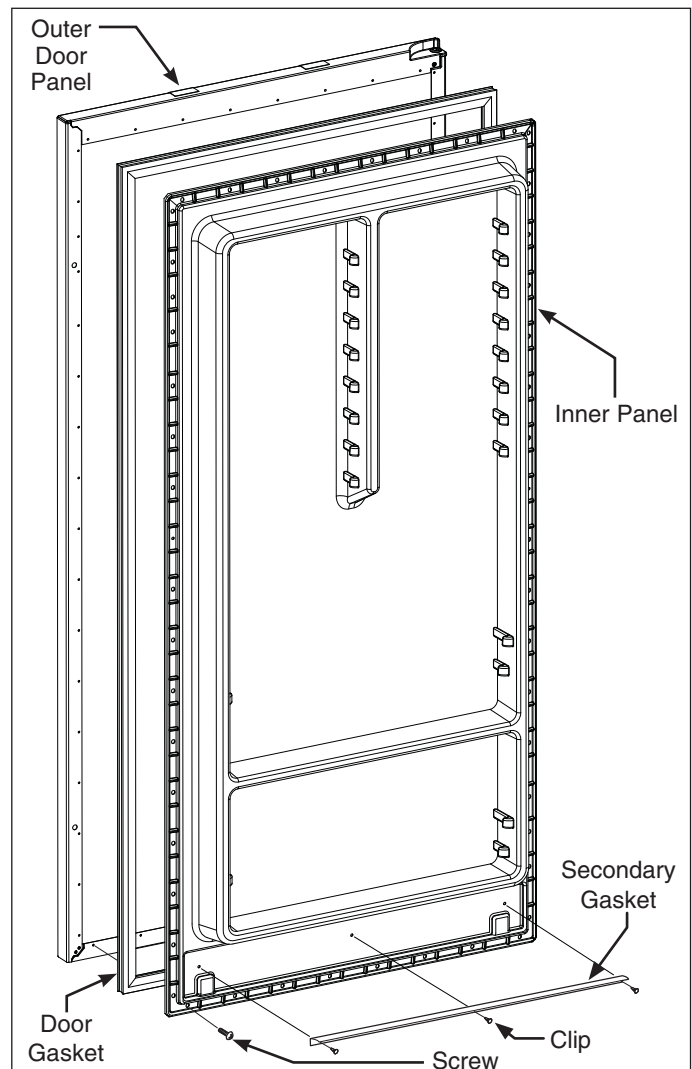

Figure 5-35. Inner Panel and Door Gasket Removal
2. Loosen the inner panel screws until the door gasket can be pulled out from under the inner panel. (See Figure 5-35)